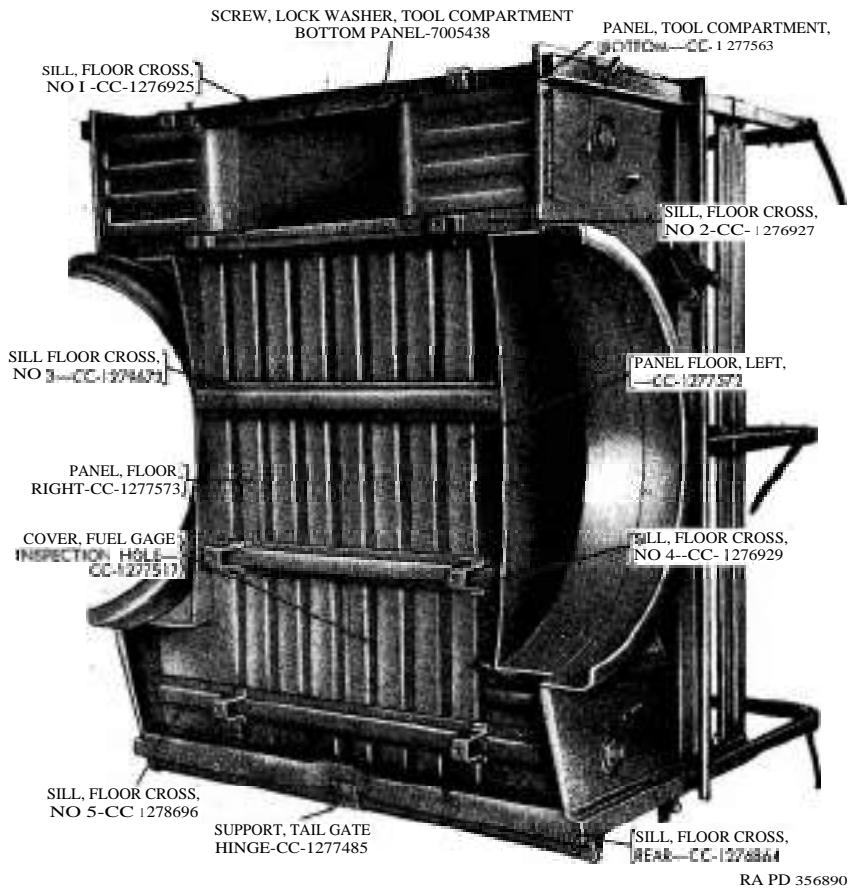

Figure 217. Cargo underbody and related parts.
f. Remove Spare Wheel Bracket. Remove two cap screws and internal-external-teeth lock washers from lower flange of spare wheel bracket (R). Remove two cap screws, lock washers, and nuts holding bracket to front panel ; then remove bracket.
g. Remove Front Panel. Remove lock washer screws, at each side, machine screws, lock washers, and nuts at front end of floor. Remove front panel (P) from body.
- (1) Remove two lock washer screws. This will release tail gate hinge support from rear floor cross sill (fig. 217).
- (2) Remove four lock washer screws. This will release the
- (1) Remove eight machine screws, nuts, and lock washers ; then remove fuel filler housing from inside of left side panel. Remove two cap screws, nuts, and lock washers ; then remove fuel filler tube assembly from wheel housing.
- (2) Remove nuts, lock washers, and screws, which attach the inside flange of the left side panel, wheel housing, and tool compartment door lock catch to floor left panel. Remove cap screws, lock washers, and nuts, which attach side panel tool compartment door (M) to left side panel (N) . Remove door.
- (3) Remove jam nuts. Remove side panel tool compartment door lock handle (L) from tool compartment door.
- (4) Remove nuts, lock washers, and cap screws. This will release tool compartment door lock from door. Remove lock.
- (5) Remove two lock washer screws from rear floor cross sill. This will release side panel corner bracket from sill. Remove left side panel (N). Remove lock washer screw at rear of side panel. Remove side panel corner bracket from side panel.
- (6) The right side panel (S) is removed in the same manner as left side panel (¶ 1 through (5) above), except for the removal of the fuel filler housing and fuel filler tube assembly.
- j. *Remove Rear Fenders.* Remove fender lock washer screws ; then remove rear fenders (J) and rear fender welts (K) from side panels.
- k. *Remove Tool Compartment Bottom Panel.* Remove tool compartment bottom panel lock washer screws; then remove tool compartment bottom panel (fig. 217) from floor cross sills.
- (1) Remove screws and fuel gage inspection hole cover (fig. 217) from left floor panel.
- (2) Remove nuts, lock washers, screws, and right and left floor panels from floor cross sills.
c. Inspect Right and Left Side Panels and Front Panel. Inspect left side panel (N), right side panel (S), and front panel (P) for collision damage or corrosion. Collision damage can be corrected by sheet metal repairs, but the panels must be replaced if corrosion is extensive.
- (1) Inspect right and left floor panels for corrosion or distortion. If corrosion has damaged the floor panels to the extent that sheet metal repairs cannot be performed, replace panels. Replace floor panels if they are distorted.
- (2) Inspect fuel gage inspection hole cover (*fig. 217*) for distortion or corrosion. Replace cover if either of these conditions exist.
e. Inspect Tail Gate Assembly. Inspect tail gate assembly (D) for collision damage, distortion, or corrosion. If any of these conditions exist, replace tail gate assembly. Inspect tail gate outer hinges (G) and supports for wear, corrosion, or distortion. If any of these conditions exist, replace hinges or tail gate assembly.
f. Inspect Rear Fenders and Rear Fender Welts. Refer to paragraph 310 for information pertaining to the inspection of the rear fenders (J) and rear fender welts (K).
- (3) Inspect side panel tool compartment door lock handle (L) for cracks or other visual damage. Replace handle if it is not in satisfactory condition.
h. Inspect Tool Compartment Bottom Panel. Inspect tool compartment bottom panel (fig. 217) for corrosion, loose welds, or distortion. If any of these conditions exist, replace panel.
i. Inspect Floor Cross Sills. Inspect floor cross sills (fig. 217) for corrosion, distortion, cracks, broken welds, or bent brackets. Repair or replace cross sills as required.
a. Install Right and Left Floor Panels on Floor Cross Sills (fig. 217).
- (1) Position No. 1 floor cross sill with the holes for the tool compartment bottom panel toward rear.
(fig. 217). Apply a liberal coating of sealing compound (51-C-1616) to upper surface of the front and rear flanges on tool compartment bottom panel. Position tool compartment bottom panel on No. 1 and No. 2 floor cross sills. Install 24 tool compartment bottom panel lock washer screws. Tighten screws.
- (1) Position one of the tail gate outer hinges (G) on body-side panel and attach hinge to body with 7/16-inch internal-external-teeth lock washers and ~~7/16-20NF~~ x 1 cap screws. Tighten cap screws. Tighten three side panel rear support cap screws.
- (2) Coat hinge ends of tail gate assembly with general purpose grease (GAA) and insert tail gate assembly in tail gate outer hinge, which is attached to body. Position other tail gate outer hinge on tail gate assembly and install two 7/16-inch internal-external-teeth lock washers and ~~7/16-20NF~~ x 1 cap screws. Tighten cap screws. Tighten three side panel rear support cap screws.
- (3) Close tail gate assembly and position tail gate hinge support (fig. 217) at center of rear floor cross sill and install two $\frac{1}{8}$ -inch internal-external-teeth lock washers and ~~3/8-24NF~~ x $\frac{3}{4}$ fluted taper point cap screws. Tighten cap screws.
l. Install Roof Bow Assemblies. Refer to TM 9-840 for information pertaining to the installation of the roof bow assemblies (A).